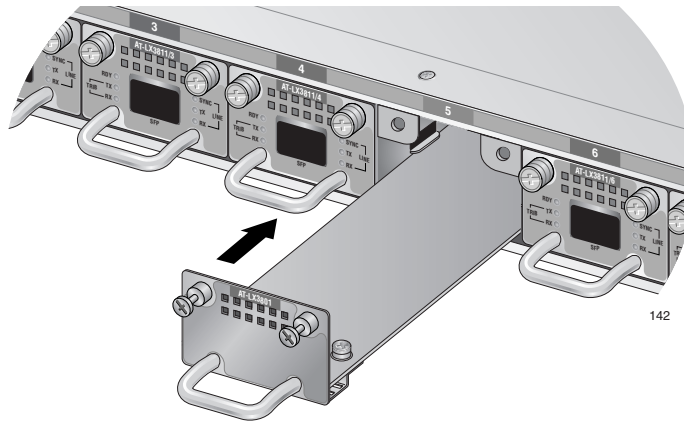

Figure 29. Installing the Blank Slot Cover
- Slide the blank slot cover into the slot, as shown in Figure 29, until the faceplate is flush with the front.